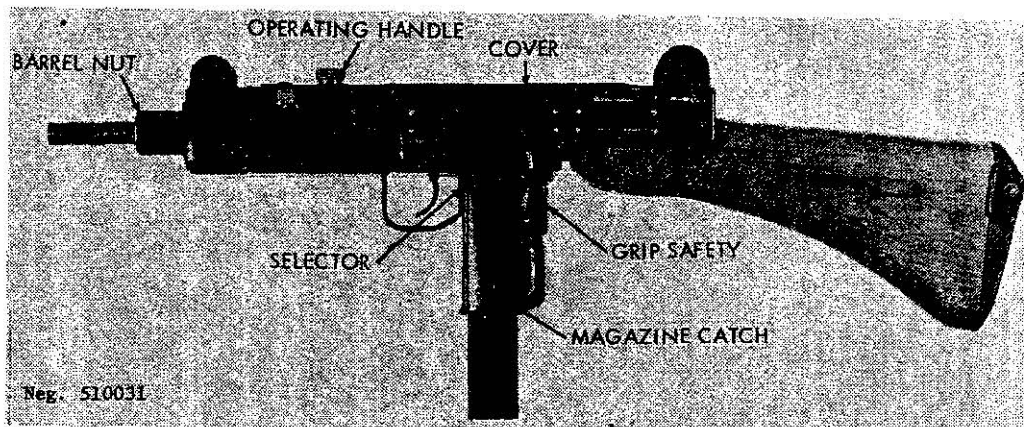
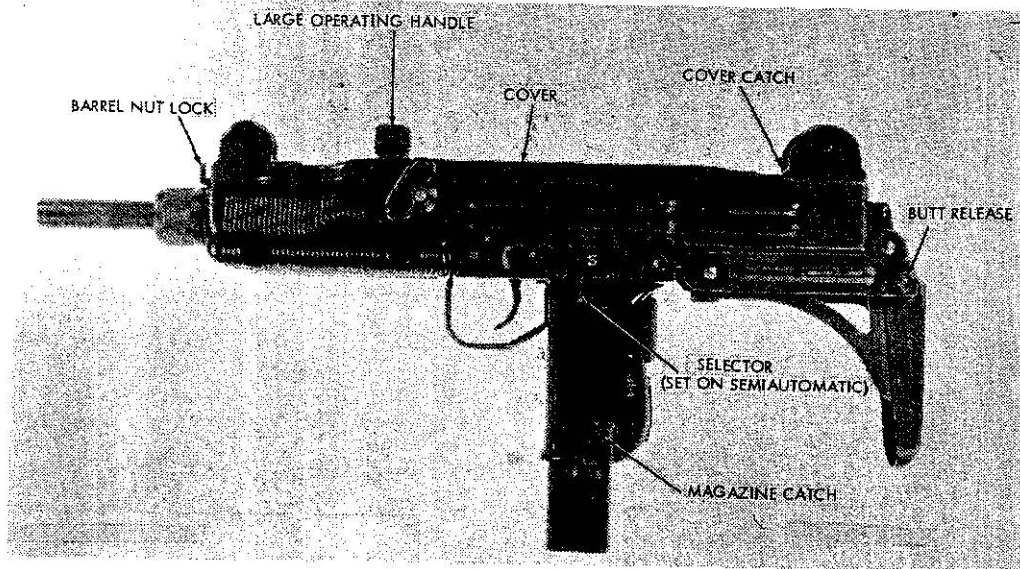
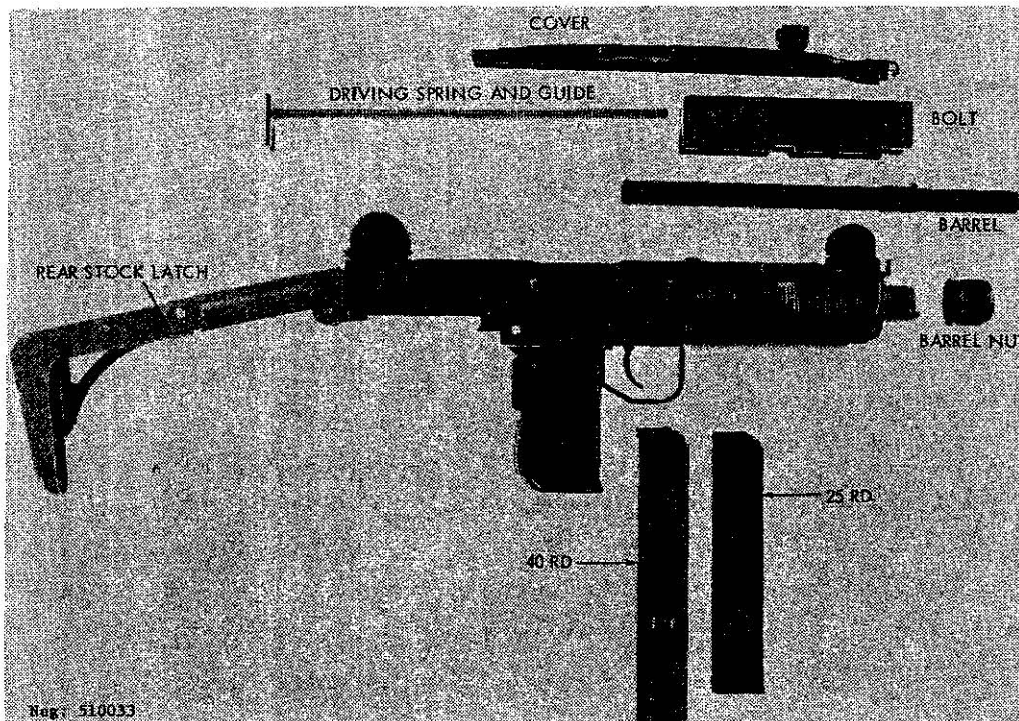

Figure 32. Israeli UZI submachinegun, early model.
Figure 33. UZI submachinegun, late model
Figure 34. UZI submachinegun, field stripped.
a. The 9-mm UZI submachinegun (fig 32 and 33) was designed by an Israeli Army officer in the early 1950's. The design appears to have been influenced by the Czechoslovak M-23 submachinegun. However, the UZI has several novel features for a submachinegun, including a bayonet and a spigot-type grenade launcher. The UZI is a simple gun to manufacture, using a maximum amount of stamped metal parts, and is considered to be an extremely reliable weapon.
c. Like most submachineguns, the UZI fires from an open bolt and can be fired either automatically or semiautomatically. It is fed by 25- or 40-round-capacity box magazines inserted into the pistol grip. Although the UZI is usually equipped with a folding metal butt (fig 33), a wood butt (fig 32), in at least two different lengths, is also used.
b. If the gun is a folding stock model, press the butt release (fig 33), pull down on the butt plate, and unfold the butt. To fold the butt, squeeze the rear half together, just to the rear of the joint, and fold the stock down and forward, insuring that it locks to the receiver.
c. Insert the magazine into the bottom of the butt until the magazine catch snaps into place. After pressing the grip safety (fig 32), pull the operating handle fully to the rear and release it. CAUTION: The UZI is now loaded and ready to fire. If the gun is not to be immediately fired, slide the selector (fig 32) fully rearward to the "safe" position.
e. Remove the magazine by pressing the magazine catch (fig 32 or 33) and pulling the magazine out of the gun.
b. Press in the cover catch (fig 33) and lift the cover (fig 33) from the receiver. Pull the bolt slightly rearward; then swing its front end up and out of the receiver. Separate the bolt and driving spring from the receiver and then from each other.
c. Press in the barrel nut lock (fig 33) and unscrew the barrel nut; pull the barrel (fig 34) forward and out of the receiver.
e. Insert the front of the cover (fig 34) under the front sight and press the rear end of the cover down until the cover snaps into place. Reinsert the magazine.